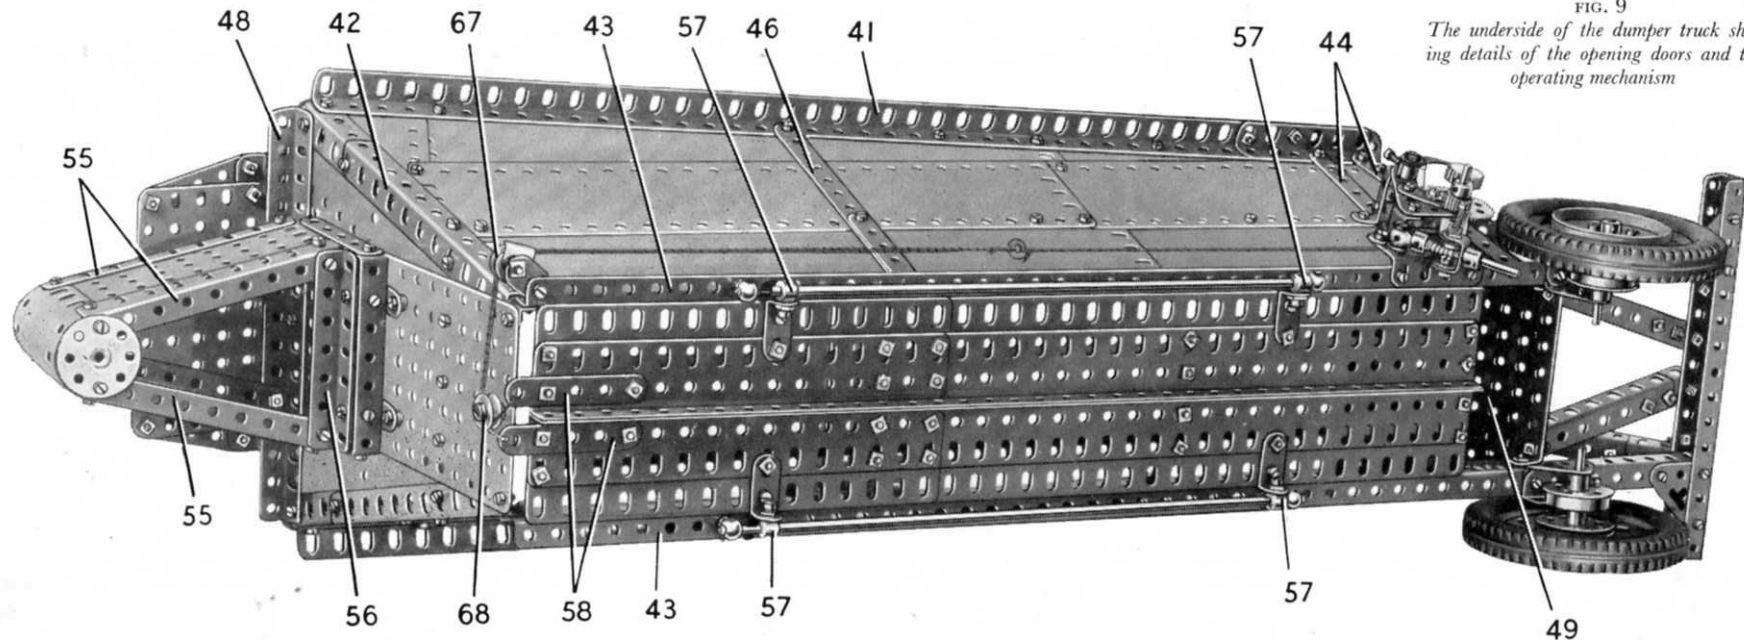
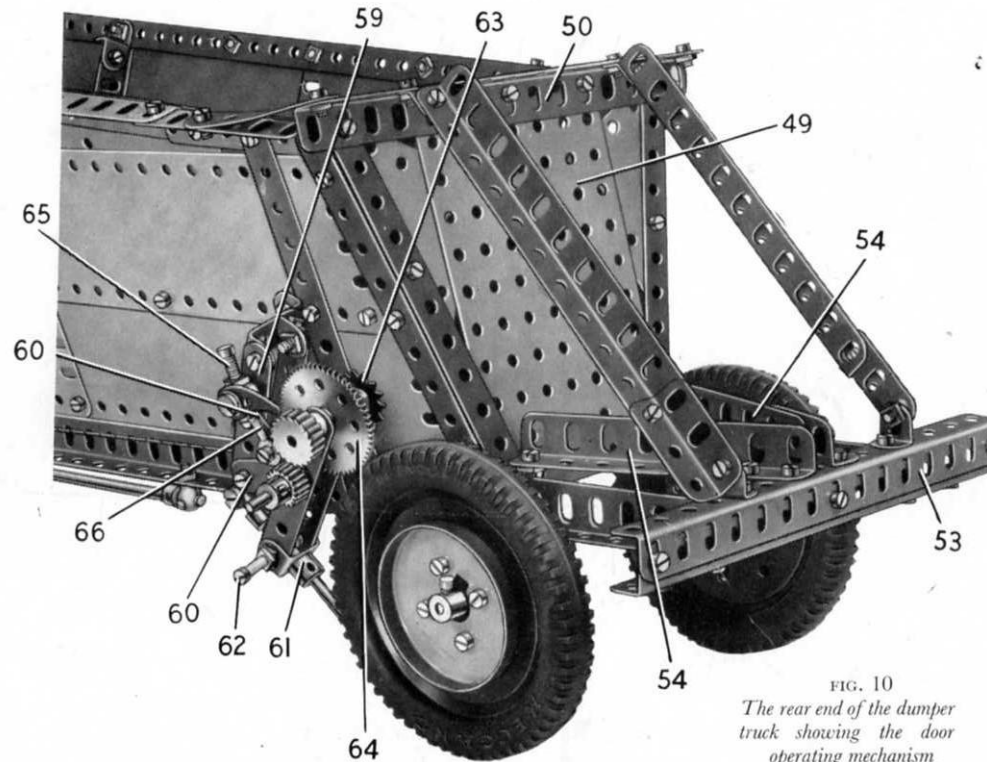

FIG. 9
FIG. 10
The rear end of the body consists of a $5\frac{1}{2}" \times 3\frac{1}{2}"$ Flat Plate (49) (Fig. 9)
A Girder Bracket is bolted to one of the Girders (43) and to it is fixed a $\frac{1}{2}"$ Reversed Angle Bracket to which are bolted a $2\frac{1}{2}"$ Strip (59) (Fig. 10) and two $1\frac{1}{2}"$ Strips (60). A second $2\frac{1}{2}"$ Strip is fixed to the Girder Bracket and is connected to Strip (59) by an Angle Bracket and a $1"$ Reversed Angle Bracket. The $1"$ Reversed Angle Bracket is bolted to the side of the dumper body (Fig. 9). Two $3"$ Strips are connected at their lower ends by a large Fork Piece (61), which is attached to one Strip by a *lock-nutted* $\frac{3}{32}"$ bolt and to the other Strip by a *lock-nutted* $\frac{3}{4}"$ Bolt (62). The $3"$ Strips pivot on a $2"$ Rod, which is held in the Strips (60) and the Girder Bracket by a $\frac{1}{2}"$ fixed Pulley and a $\frac{1}{2}"$ Pinion. A $1"$ Rod is mounted freely in the top holes of the $3"$ Strips and is fitted with a $\frac{3}{4}"$ Sprocket (63), a 57-tooth Gear (64) and a Ratchet Wheel. A Pawl, which is fitted with a $\frac{1}{2}"$ Bolt (65) to form a release handle, is mounted on a Pivot Bolt held in the Strip (59). The Pawl engages the teeth of the Ratchet and is held against them by a short piece of Spring Cord (66).
One end of a length of Cord is tied to the boss of the Sprocket (63) and its other end is tied to a Washer. Two separate lengths of Cord are also fastened to the Washer, and each of these is led over one of two $\frac{1}{2}$ " loose Pulleys (67) (Fig. 9), which are mounted on a $\frac{3}{4}$ " Bolt held in a Fishplate by two nuts. Both Cords are then passed over a $\frac{1}{2}$ " loose Pulley (68), and each is tied to one of the Strips (58) of the doors. The Fishplate that supports the Pulleys (67) is bolted to one of the Girders (43) and an Angle Bracket on the $\frac{3}{4}$ " Bolt serves to keep the Cords on the Pulleys.